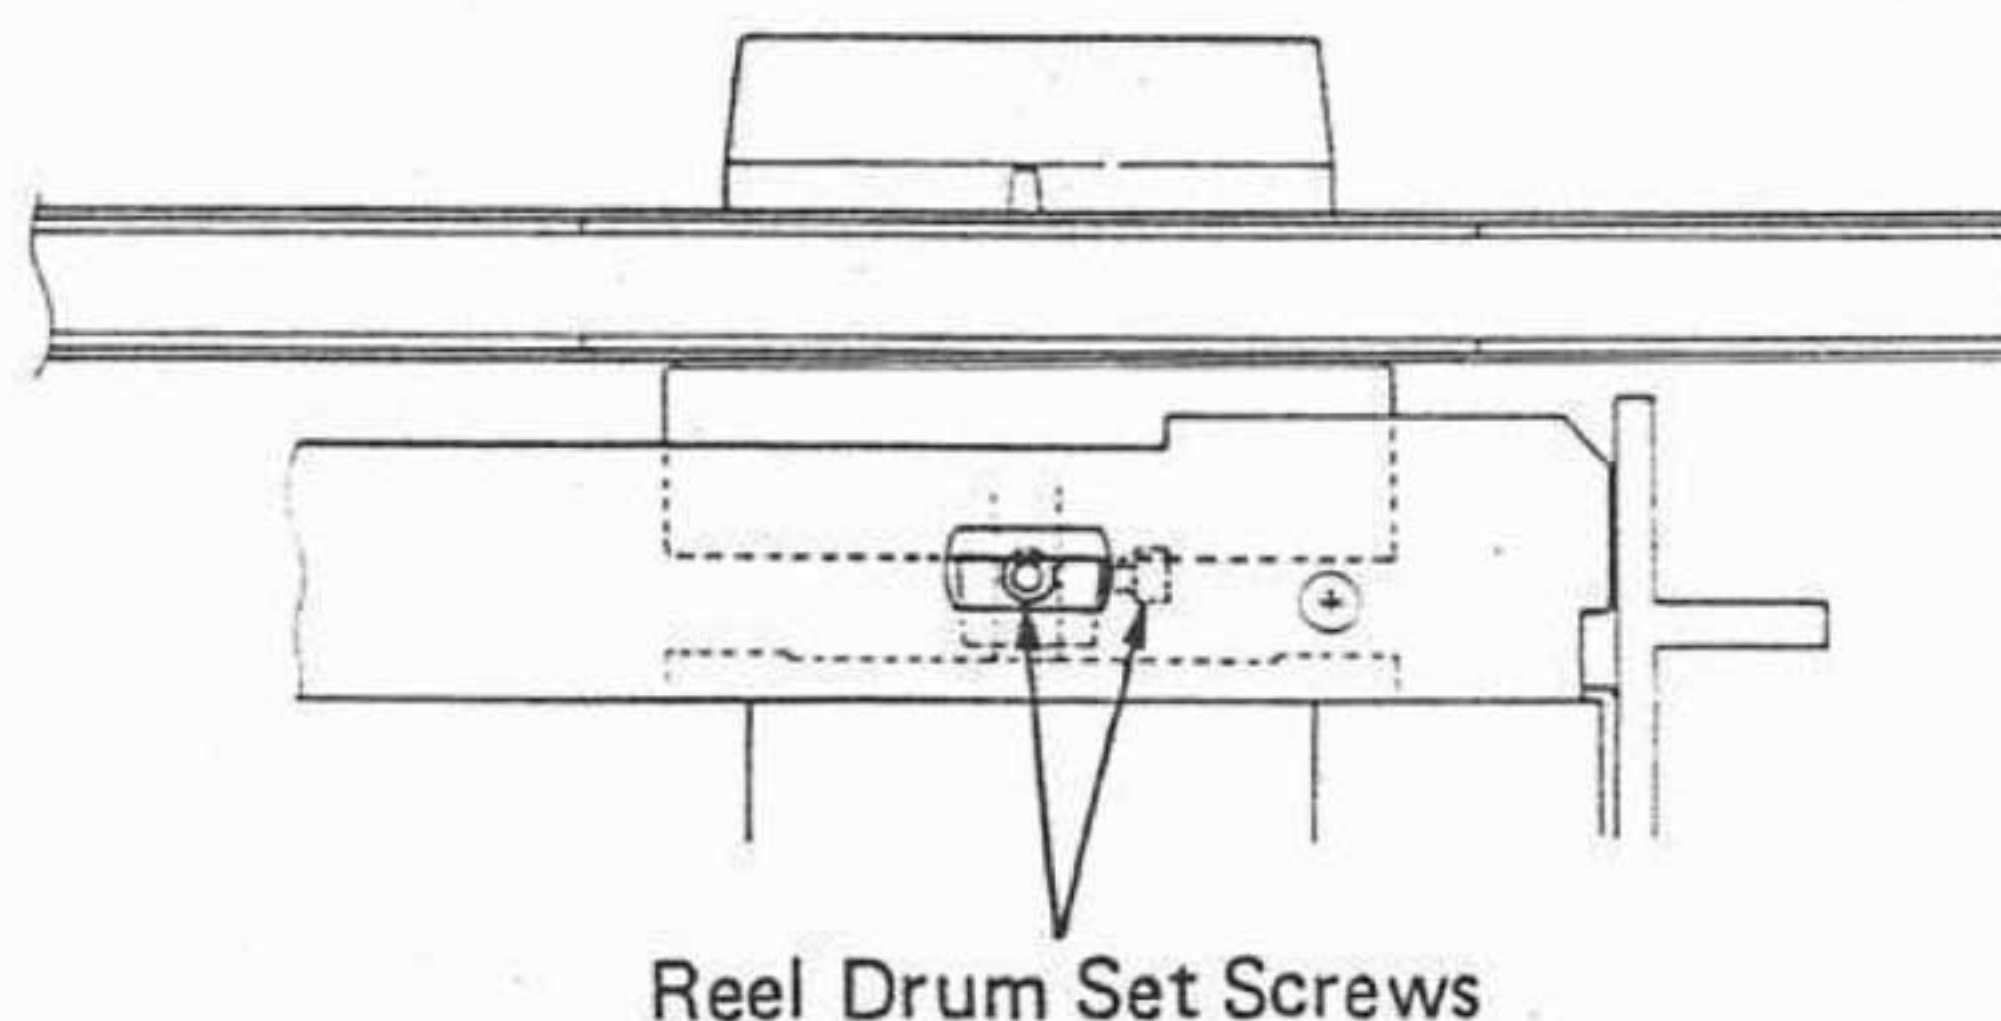

FIG. 21. REEL HEIGHT ADJUSTMENT
2. Loosen the two set screws shown in Fig. 21.